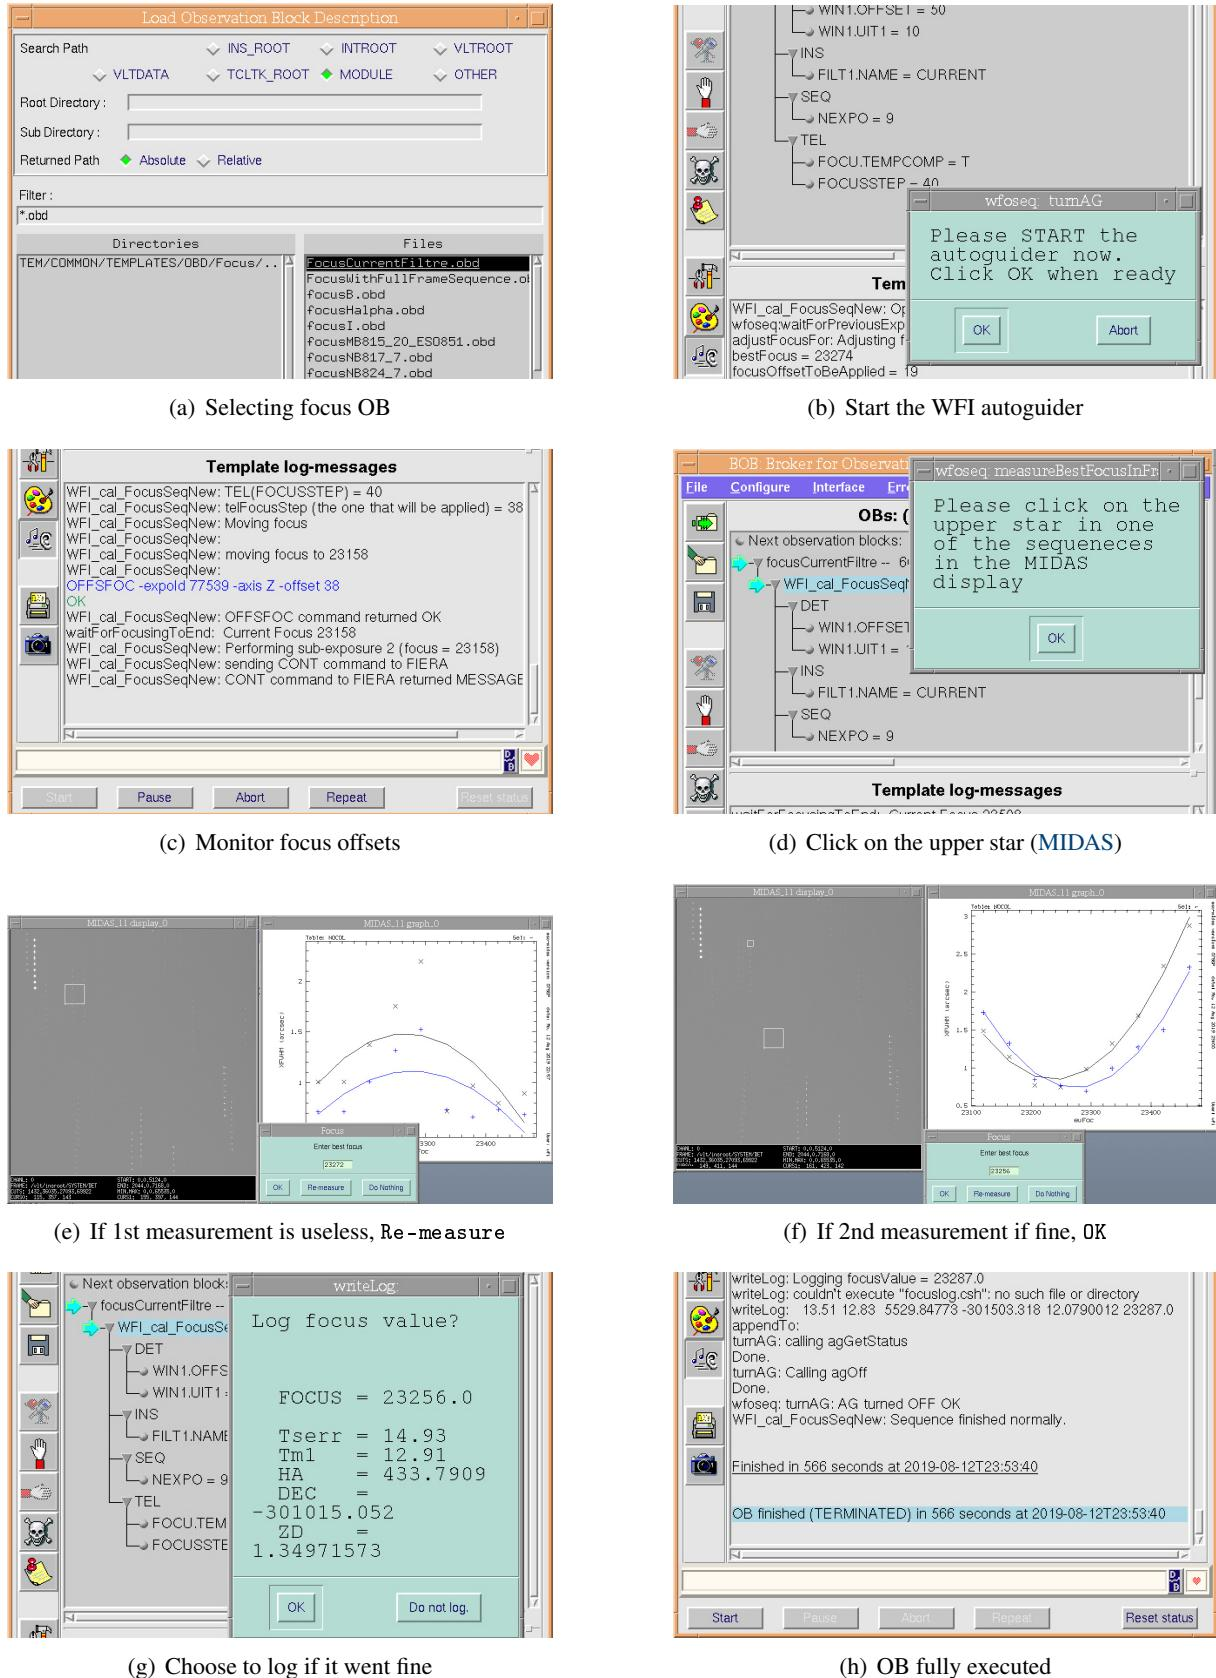

Figure 5.1: Main steps in the focus sequence of WFI.
- B. Start the focus OB (Fig. 5.1(a), p. 47) and perform AG acquisition if required (Fig. 5.1(b), p. 47)
- C. Monitor the progress of the focus sequence on bob and skycat (Fig. 5.1(c), p. 47, 6 min).